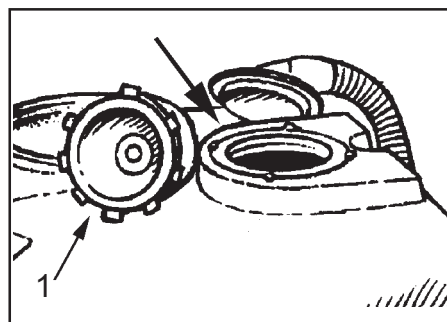

Figure 38
5. Make sure the filter screen (1) to the vacuum motor is clean and installed properly in the recovery tank (see figure 38).